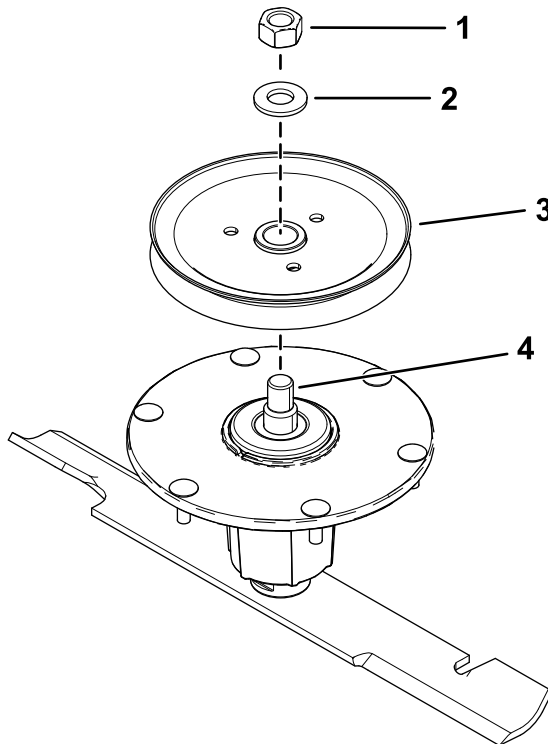

Figure 5
1. Remove the top nut, washer, and sheave from the spindle (Figure 5).